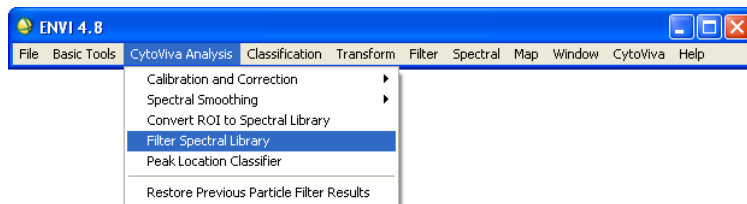

Figure 1. CytoViva Analysis Tab
1. In the Particle Filter Review Tool you could make a Spectral Library for each particle that was found over a range of wavelengths between 475 nm and 525 nm by selecting the appropriate rows in the list. Then choose Export, then To Region of Interest and the ROI Tools Dialogue Box opens (see Figure 1).
2. The ROI Tool opens with the particles listed as individual ROIs which you can apply to the image. You can create different colors for the ROIs by right-clicking Color and choosing Assign default colors (see Figure 1).
2. Then click the Filter Spectral Library (see Figure 1)